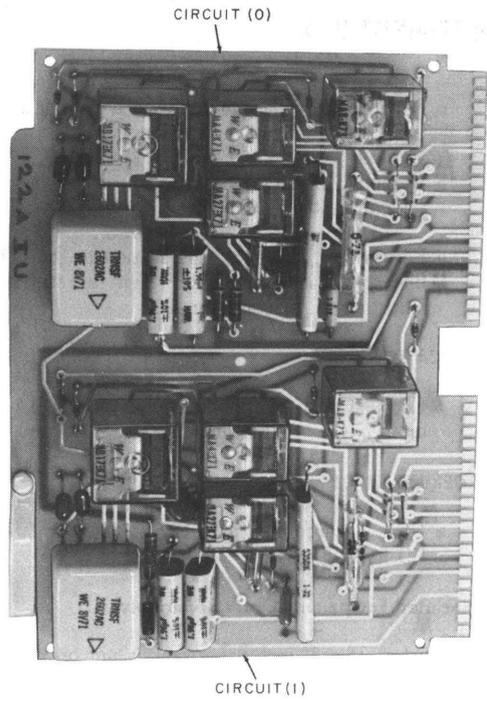

Fig. 1—122A Interconnecting Unit
- Unit, Interconnecting, 122A (one per two CO lines, Fig. 1).